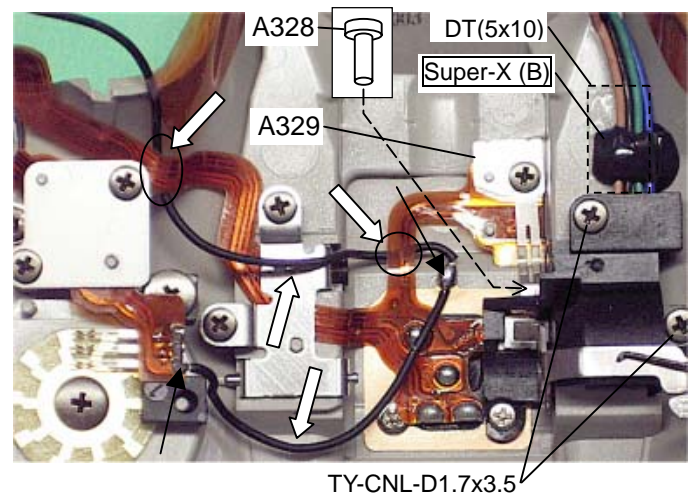

Fig.132
- 11) Apply Super-X (black) as shown in Fig.132 to fasten the lead wires.
- 12) A328, A329 (SW), TY-CNL-D1.7x2.5